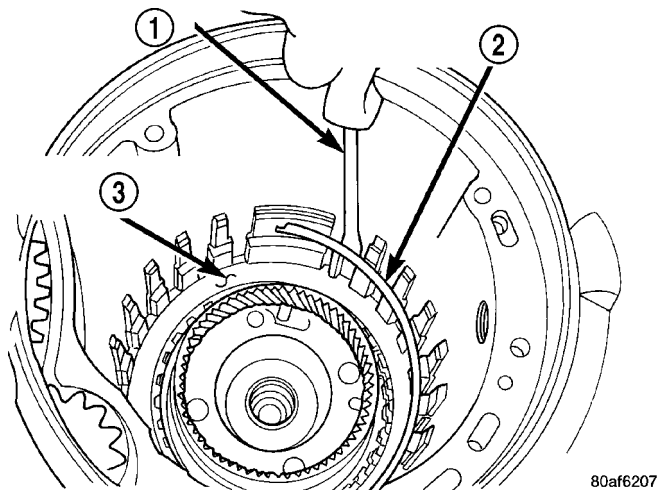

Fig. 124 Install Low/Reverse Reaction Plate Snap Ring
- 1 - CLUTCH PLATES (5)
- 2 - CLUTCH DISCS (5)
(39) Install low/reverse reaction plate flat snap ring (Fig. 124).